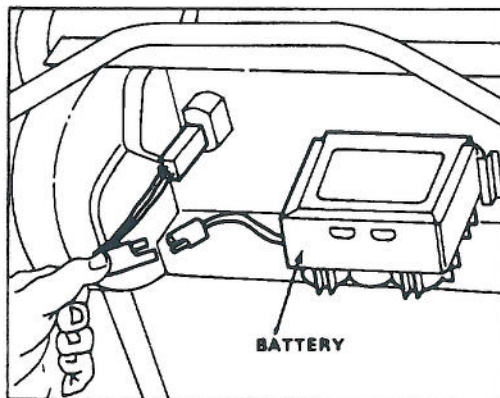

Figure 3
4. Charge battery (Key Start model): refer to Charging Battery, Page 10. Slide battery, decal side up, between slots on back of control panel and connect wires (Fig. 3). Insert key into switch when ready to start engine.